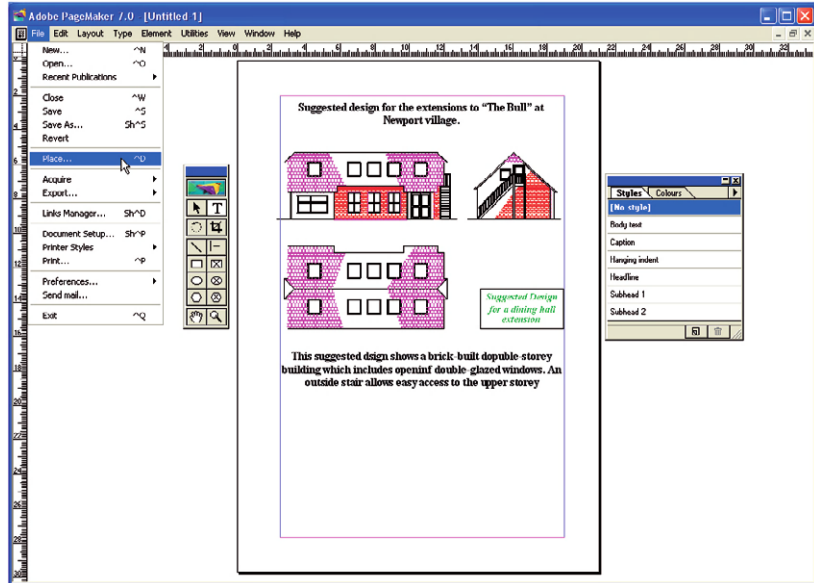

Fig. 10.5 An EPS file placed in position in a PageMaker document
Second example – EPS file (Fig. 10.5)
2. Open a desktop publishing application. That shown in Fig. 10.5 is **PageMaker**.
3. From the **File** drop-down menu *click* **Place . . .**. A dialog appears listing files which can be placed in a PageMaker document. Among the files named will be **building.eps**. *Double-click* that file name and an icon appears, the placing of which determines the position of the *.eps file drawing in the PageMaker document (Fig. 10.5).